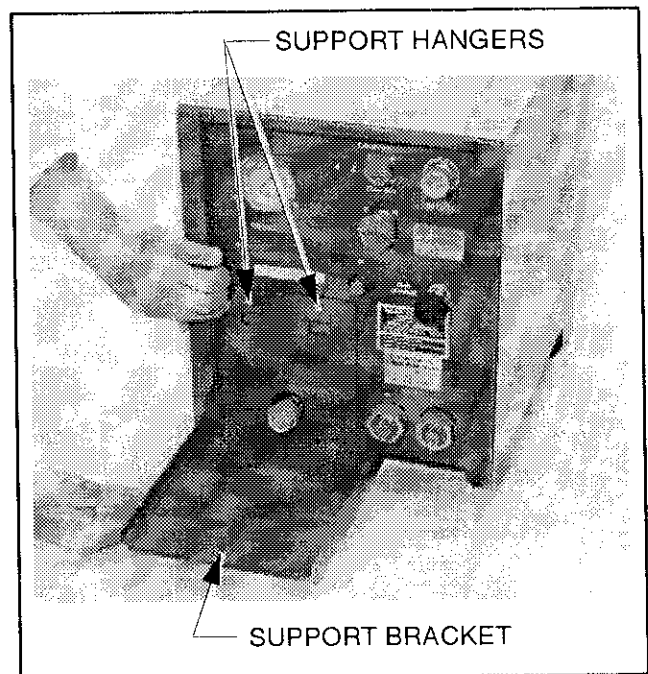

Figure 3.1 Installing cartridge support bracket on compressor
1. Install the cartridge support bracket over the compressor gas-supply connector. See Figure 3.1.